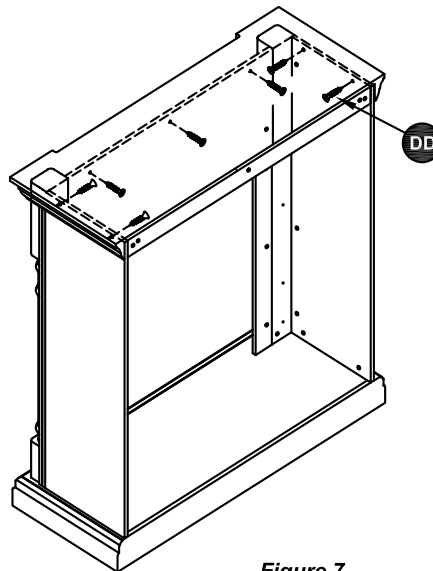

Figure 7
7. Flip the previously assembled frame over and secure it by tightening the screws (DD), as shown in Figure 7.